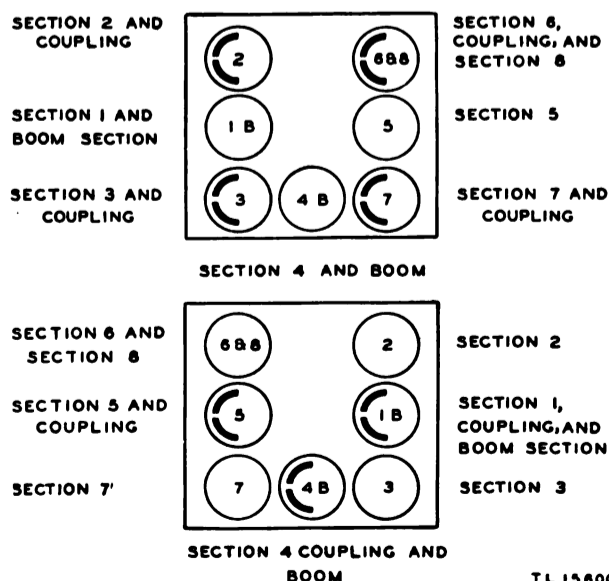

Figure 23. Base packing layout.
c. Place mast sections 3, 4, and 7 on the yellow stripes opposite base plugs with corresponding numbers and the couplings nearest to the plugs designated in addition to the section numbers (fig. 23).